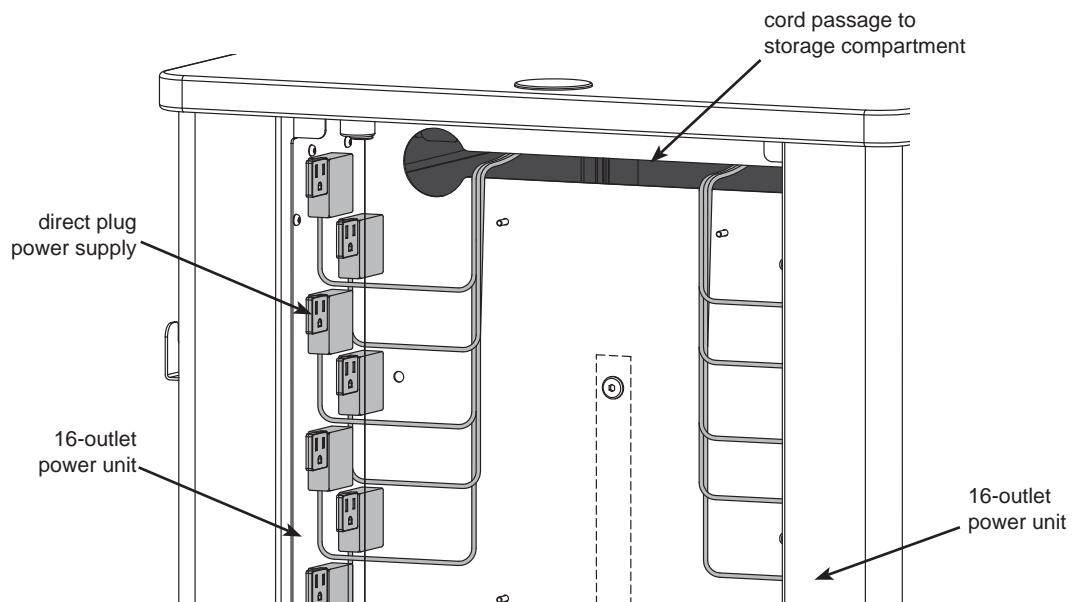

Figure 10
1. Bundle the power cords together as necessary. **Figure 10.**